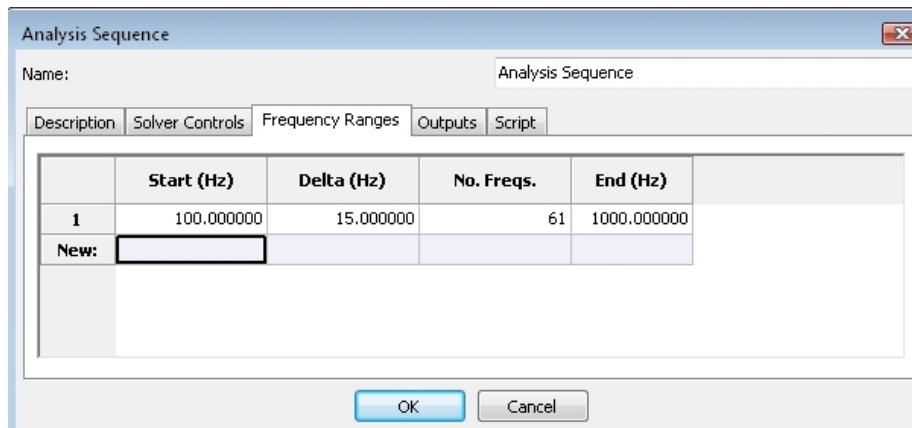

Figure A.45 Set analysis frequencies.
- Move onto **Frequency Ranges** tab to specify analysis frequencies. Refer to Figure A.45.